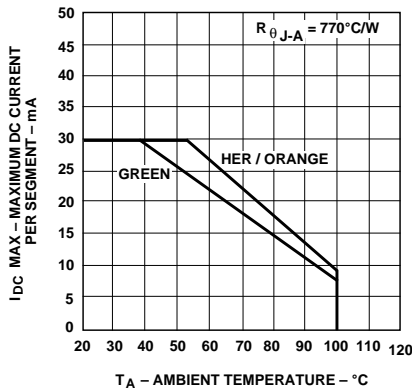

Figure 7. Maximum Allowable DC Current vs. Ambient Temperature.
2. Derate above 53°C at 0.45 mA/°C (see Figure 7).
4. Derate above 39°C at 0.37 mA/°C (see Figure 7).